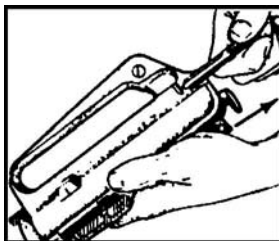

Figure 9. Pulling the charging handle.
- g. Pull back the charging handle (Figure 9).